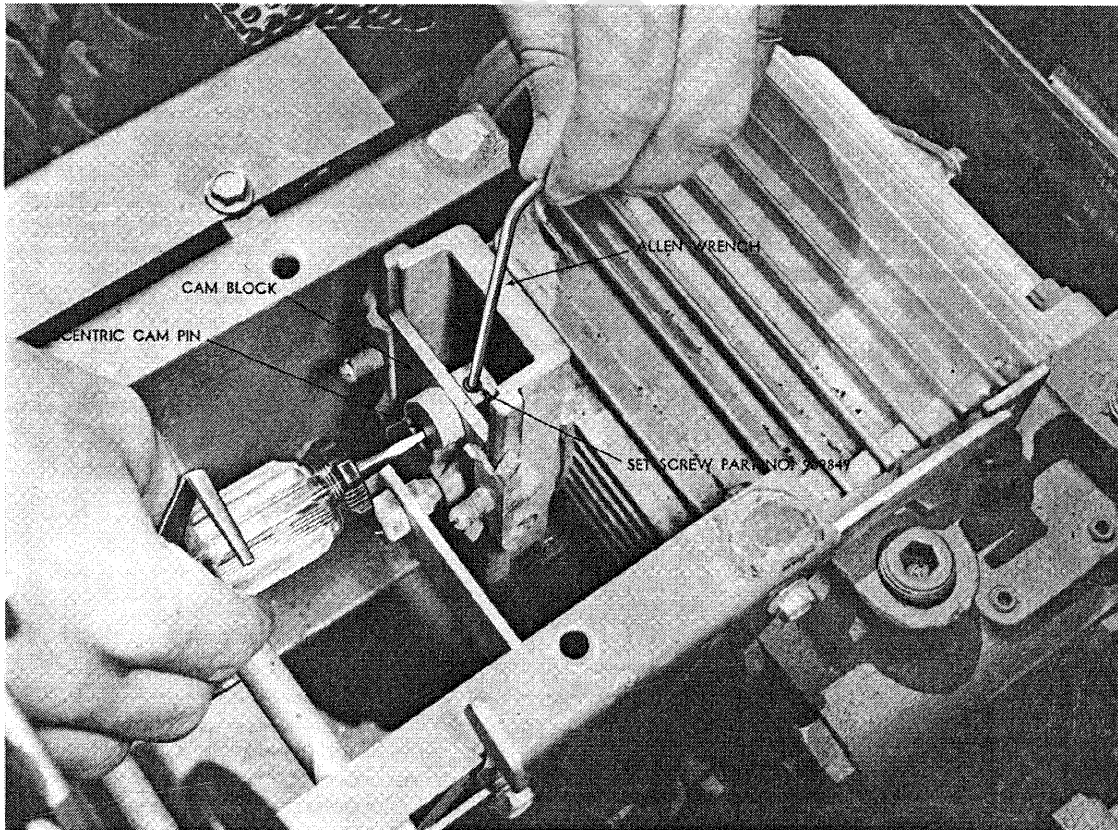

Figure 2
The control handle is friction loaded so it will hold at any desired speed. If the handle does not stay where it is set during operation, the friction may be increased by tightening the two screws that put pressure on the nylon cam (See Figure 2). **CAUTION:** Too much friction will cause erratic action on the control handle. **Do Not Lubricate Nylon Cam.**
B. To make neutral adjustment (See Figure 2).
3. Loosen set screw in arm with a allen wrench (See Figure 2).